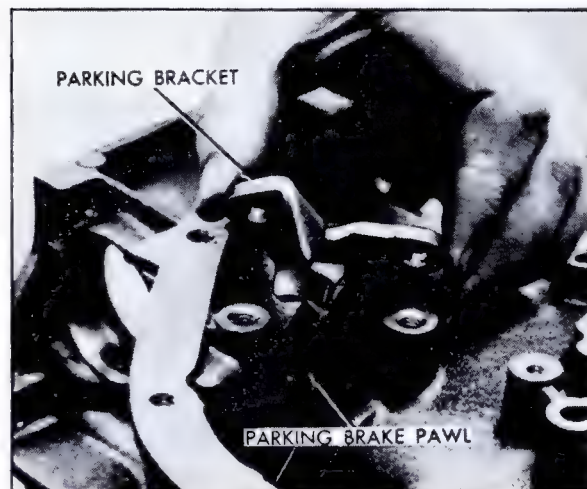

Fig. 7-108 Installing Parking Pawl Bracket
5. Install parking pawl bracket with guides over parking pawl, Fig. 7-108. Install two attaching screws, tightening screws to 18 foot-pounds.